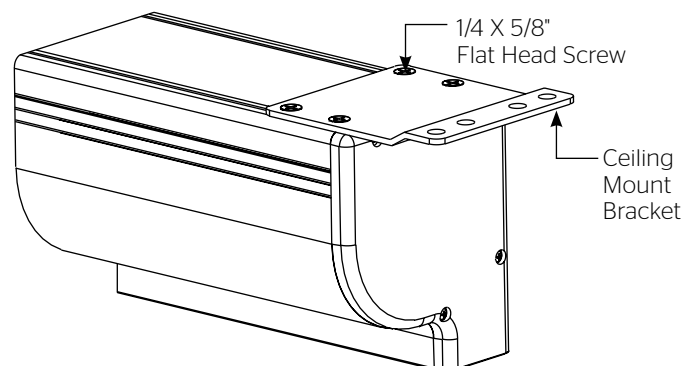

Figure 3
2. Using a #2 Phillips screwdriver, loosen the four 1/4"x 5/8" screws holding the ceiling flush mount brackets (Figure 3).
4. Tighten the four 1/4"x 5/8" screws holding the ceiling flush mount brackets (Figure 3).
2. Remove the ceiling flush mount brackets using a #2 Phillips screwdriver (Figure 3). Retain four 1/4" x 5/8" screws.